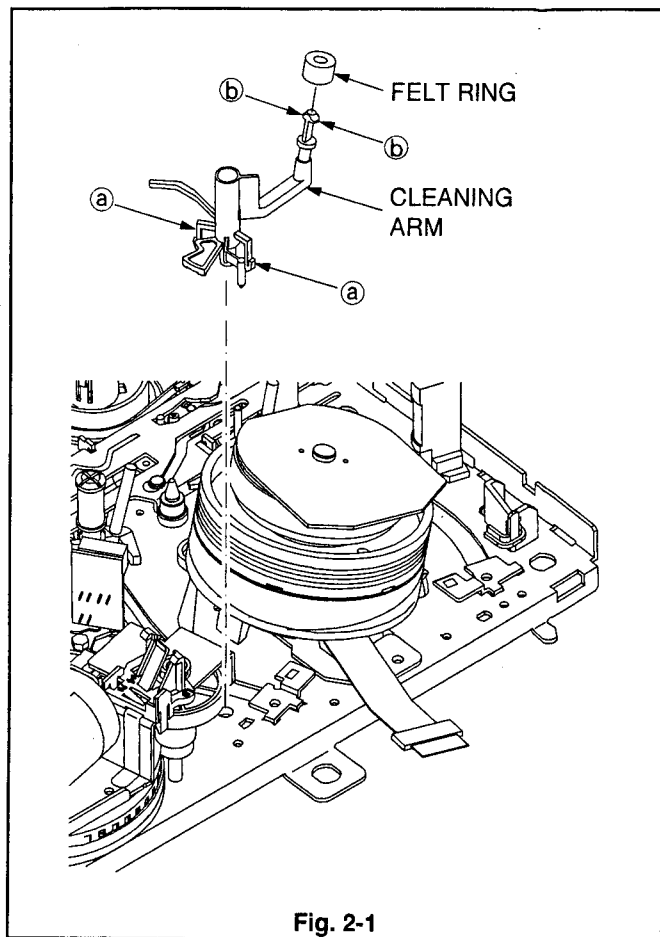

Fig. 2-1
1. Release the two catches (a) of the CLEANING ARM shown in the Fig. 2-1 to remove the CLEANING ARM.
2. Release the two catches (b) of the CLEANING ARM shown in the Fig. 2-1 to remove the FELT RING.
1. Install the FELT RING shown in the Fig. 2-1 to the CLEANING ARM.
2. Install the CLEANING ARM shown in the Fig. 2-1.